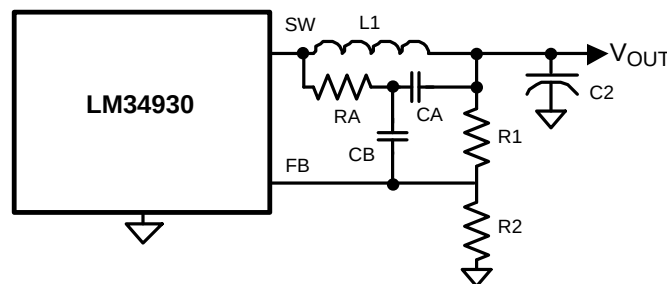

Figure 23. Minimum Output Ripple Using Ripple Injection
a) Minimum ripple configuration: If the application requires a lower value of ripple at V_{OUT} (<25 mVp-p), the circuit of Figure 23 can be used. R3 is removed, and the resulting output ripple voltage is determined by the inductor's ripple current and the characteristics of C2 (value and ESR). RA and CA are chosen to generate a sawtooth waveform at their junction, and that voltage is AC-coupled to the FB pin via CB. To determine the values for RA, CA and CB, use the following procedure: